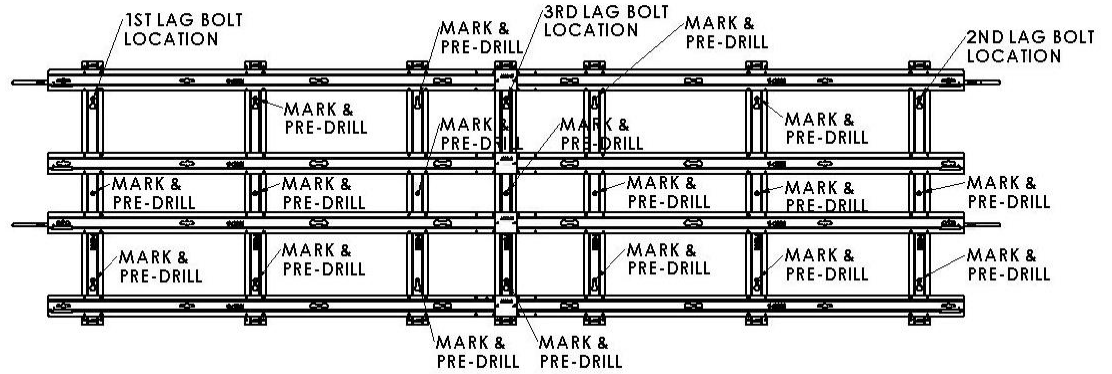
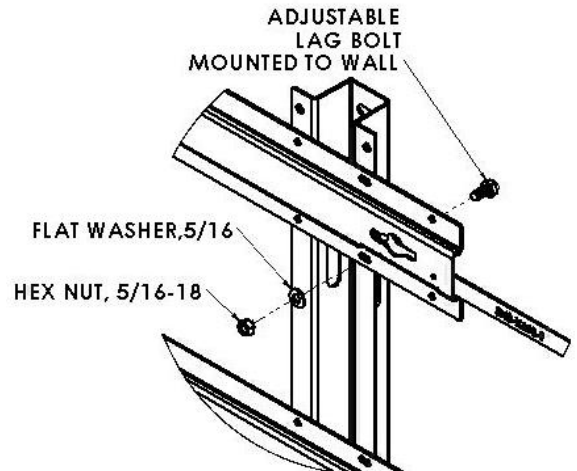

Figure 2
Figure 3
Use the frame as a template to mark the other locations of the adjustable lag bolts. Use three (3) per vertical channel, two keyholes and the center hole (Figure 2).
hex part of the bolt is flush to the wall (**Figure 2**). Hang the upper frame onto the adjustable lag bolts mounted on the wall. Install hex nut and flat washer then snugly tighten hex nuts. **DO NOT TIGHTEN** permanently until the entire video frame is installed and adjusted (**Figure 3**).
Mark the locations of the adjustable lag bolts for the lower frame. Three per V-Channels (**Figure 2**). Detach the lower frame from the top frame by unscrewing the screws on the Vertical joiner plate then place lower frame back on the floor.